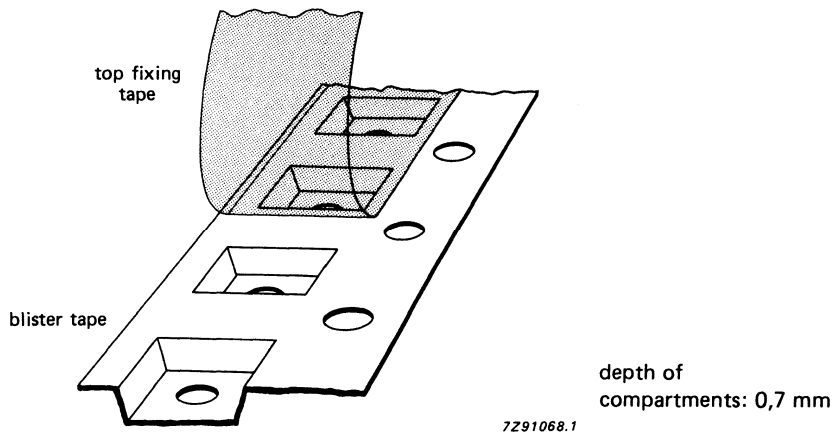

Fig. 2 Blister tape.
3. Blister tape (style 2), on reel; quantity 4000 per reel; reel diameter 180 mm (see Figs 2 and 3).
4. Blister tape (style 2), on reel; quantity 10 000 per reel; reel diameter 250 mm (see Figs 2 and 3).